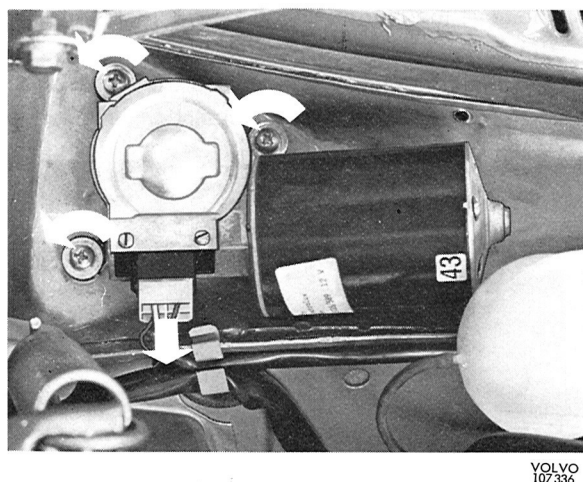

Fig. 3-139. Removing windshield wiper motor
3. Remove the three attaching screws (Fig. 3-139).
1. Place the wiper motor in position and install the attaching screws, see Fig. 3-139.